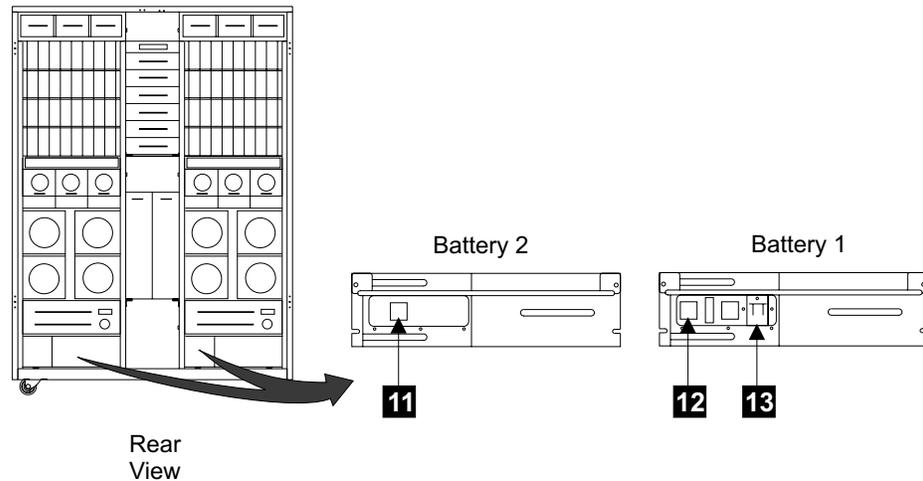

Figure 235. 2105 Model Exx/Fxx 390 V Battery Circuit Breaker (S007629m)
- ___ 11. Verify that all the 390 V battery cables are connected to battery 1 (three cables) **12** [Figure 235] and battery 2 (one cable) **11** the primary power supplies.
Note: If battery cables are disconnected set the circuit breaker on 390 V battery 1 **13** [Figure 235] to Off before connecting any 390 V battery cable.
- ___ 12. Set the MASTER circuit breaker (CB, S2) on 390 V battery 1 **13** [Figure 235] to On (up).